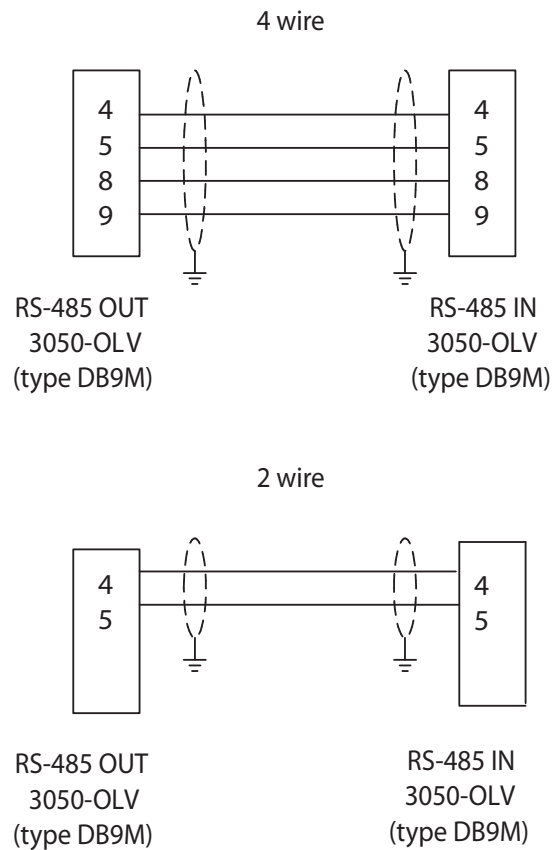

Figure 2-8.
4. Insert the RS-485 termination plug into the RS-485 out connection if communicating with one analyzer or the last in a chain (Figure 2-8).